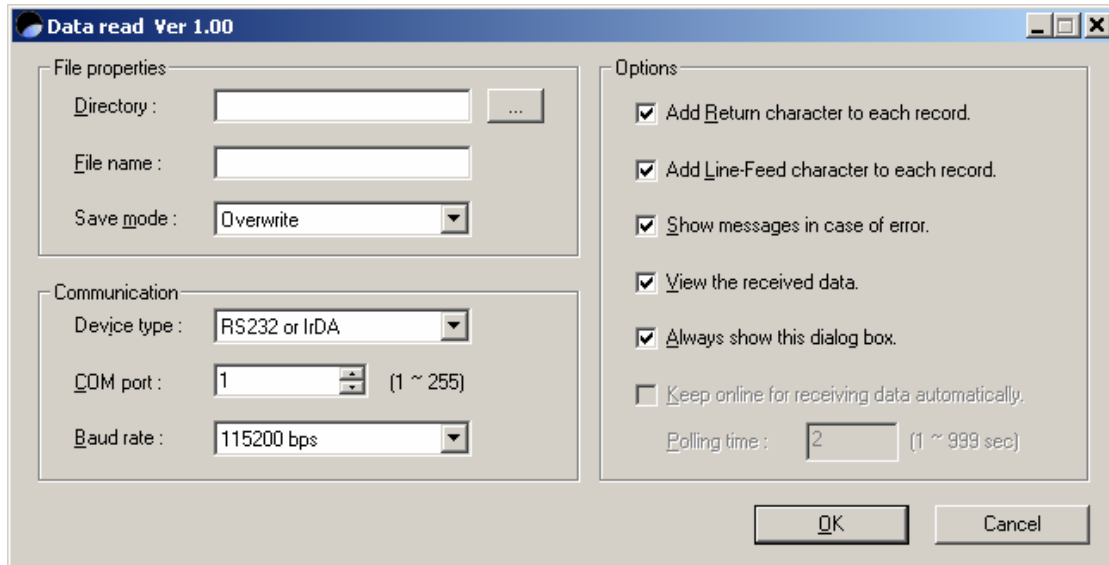

Figure 3: Upload Window
14. From the Optimizer program, choose the “Tools” menu item, then “Communication”, and finally “Receive Data”. The upload window will open (see **Figure 3**).
18. From the Optimizer program, choose the “Tools” menu item, then “Communication”, and finally “Receive Data”. The upload window will open (see **Figure 3**).